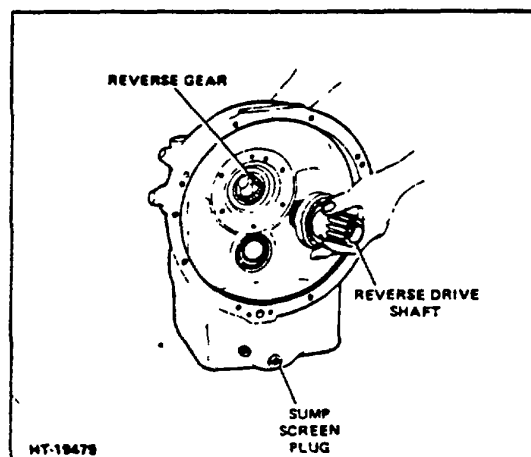

Figure 1-8. Removing Reverse Gear and Shaft
11. Remove sump screen by removing sump screen plug (Fig. 1-8). Remove screen and spring through plug hole.